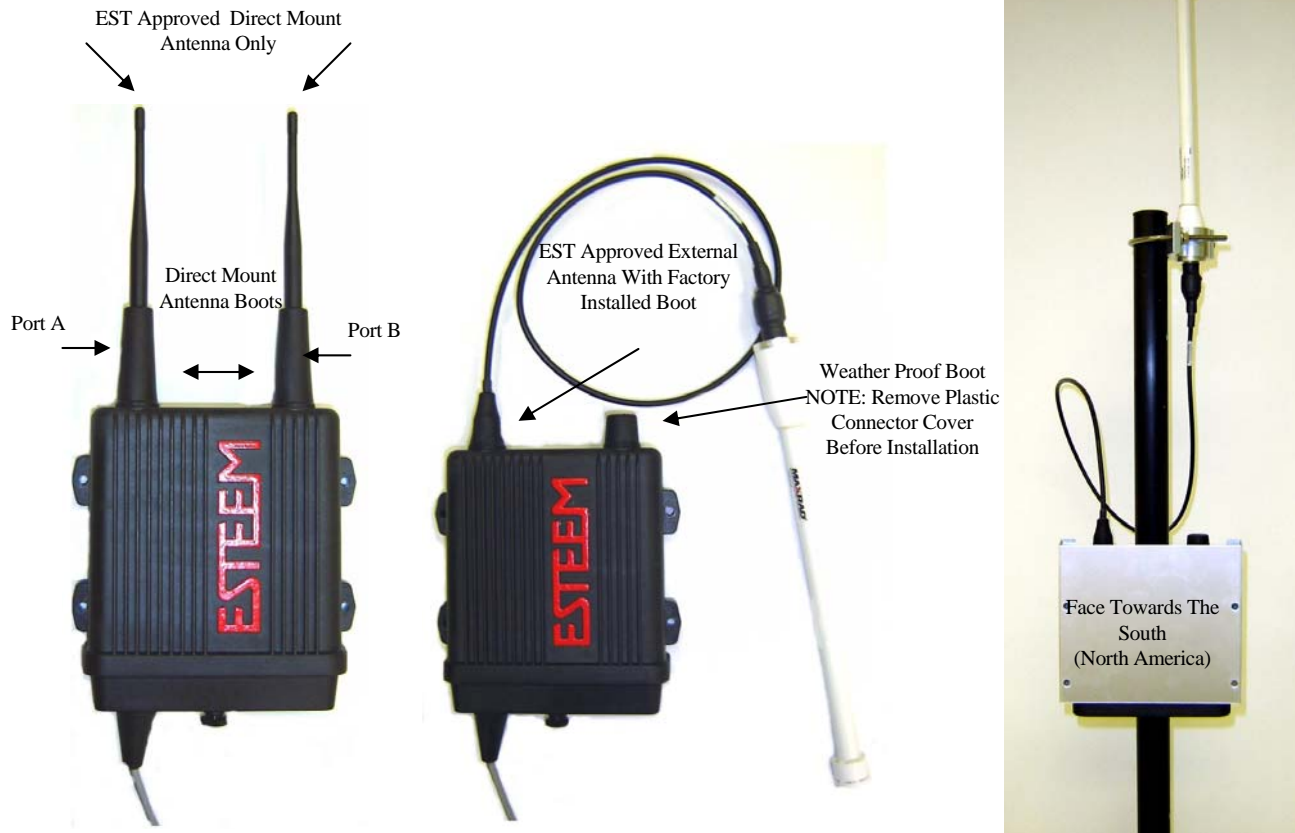

Figure 10: Completed AA195PM Mounts
11. Attach the antenna connector boots as show in Figure 10 for either dual attached antennas or external antennas. You are now ready to mount the ESTeem Model 195E